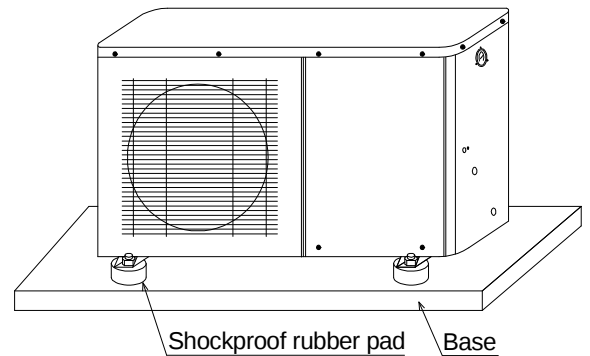
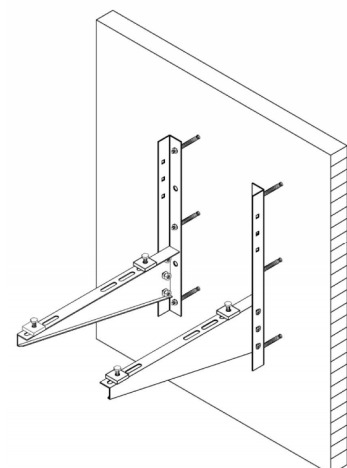

fig.1.1
fig 1.2
- a. Mount the unit on the selected base and install the 4 black shockproof rubber pads under the 4 sheet of the unit to reduce vibration and sound transmission to the base. (Fig 1.1). For model 010B, 015B, 020B, users may use brackets to install the unit on wall (Fig 1.2)